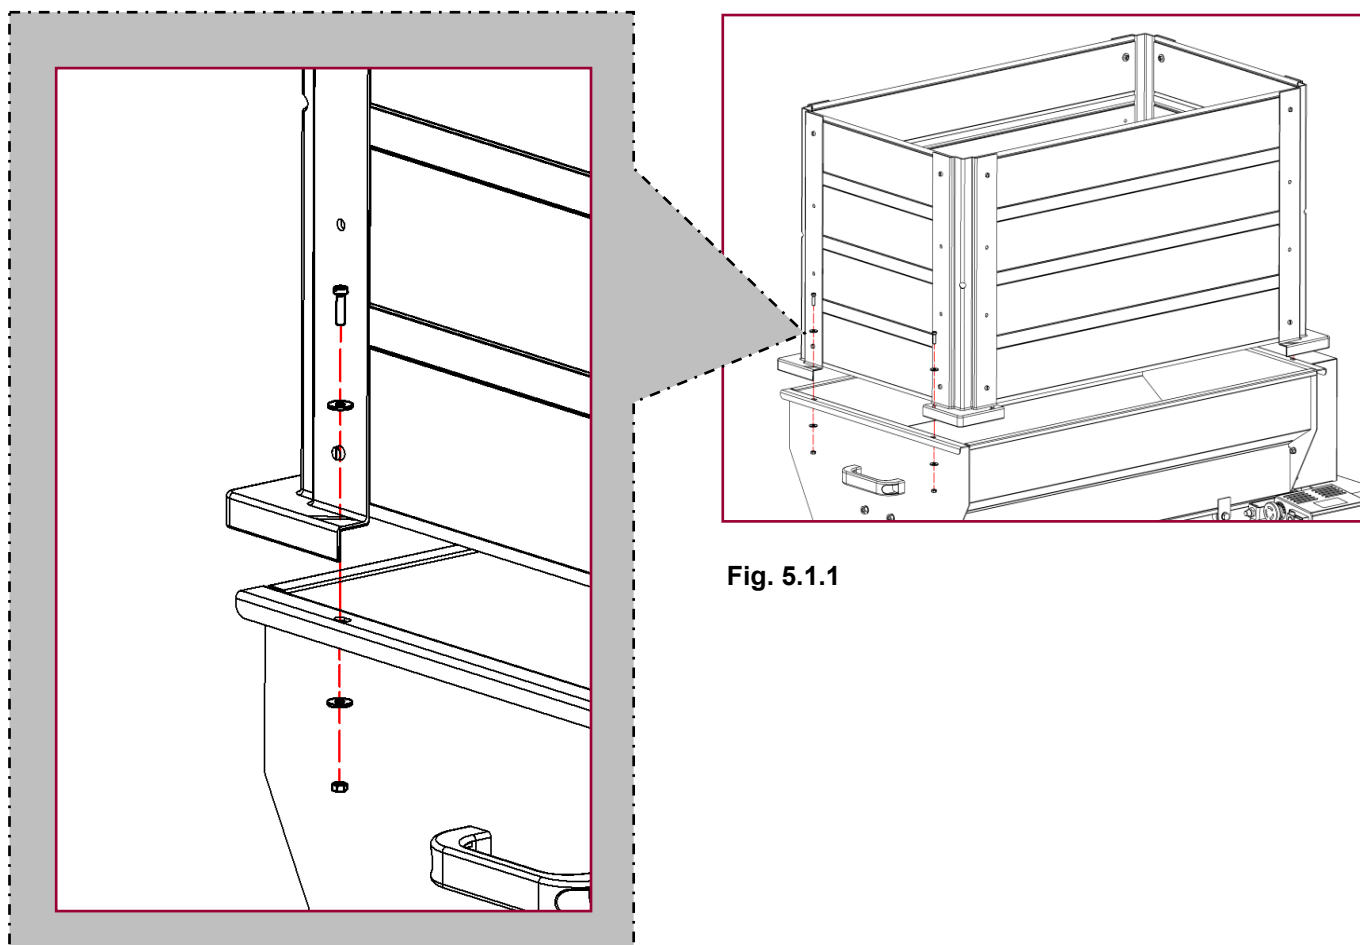

Fig. 5.1.1
2. Attach the safety container to the hopper using the screws provided, as indicated in figure 5.1.1.